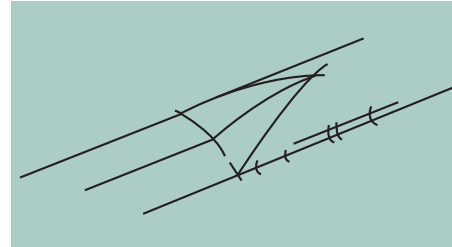

Figure 30 Weld joints
- E.** Typically, you would start welding from the edge of the room towards the centre. At this stage, pull the gun away from the groove and cut off the welding rod. Using a spatula knife, trim off the excess welding rod and cut a tapering "V", approximately 25mm long, into the existing weld (Figure 30). Commence welding as before, from the opposite end of the room. Run out the weld into the pre-cut "V" and cut off the excess welding rod.